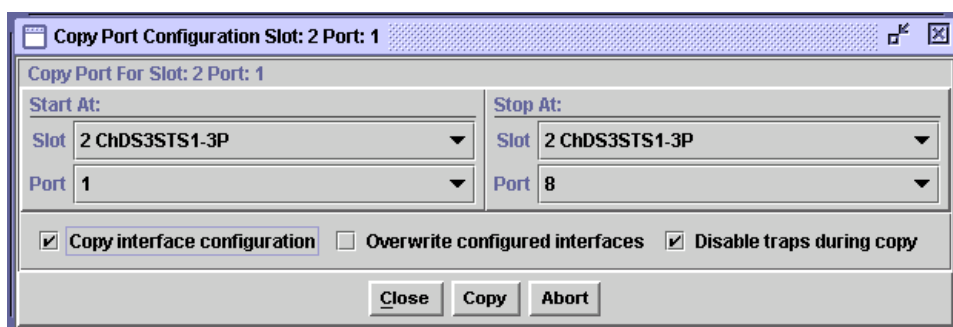

Figure 5-12. Sample Copy Port Configuration Window (After Selecting a Valid Attributes)
- 2 Select the range of slots and ports to which you wish the port configuration to be copied as follows (refer to Figure 5-12):